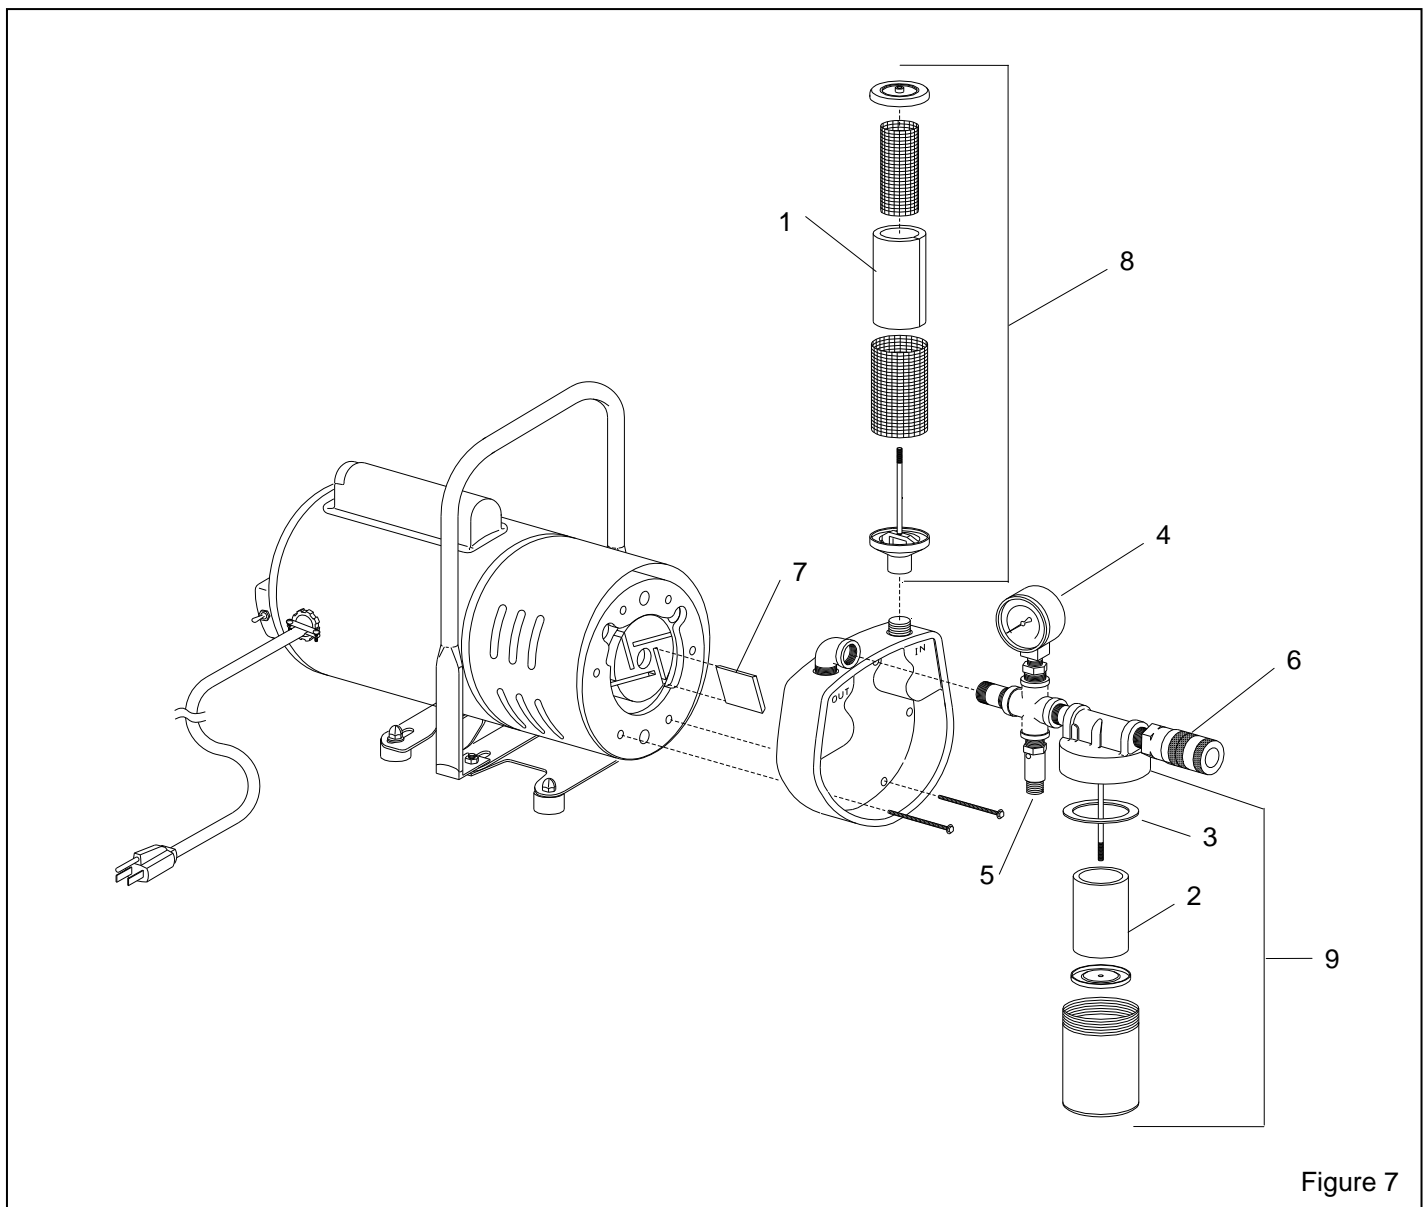

Figure 7
8.2 Replacement Parts, Figure 7